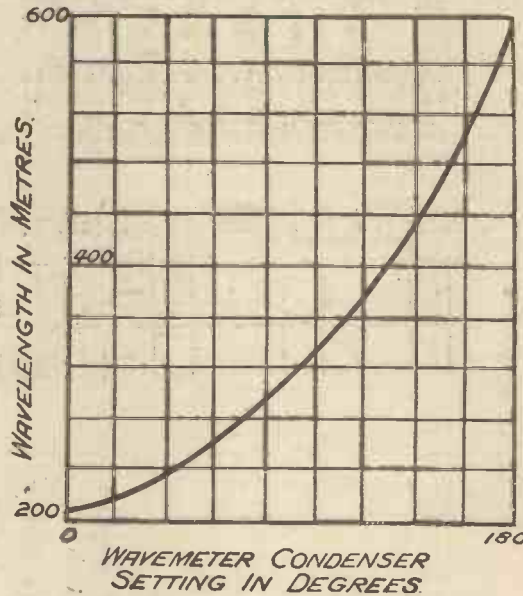

Fig. 3.—The tuning graph for calibration.
B.B.C. stations will give a useful nucleus of points, and there are several high-power foreigners who will be audible on most sets. A graph is then plotted on squared paper as in Fig. 3, wavemeter dial readings being marked along the bottom and wavelengths up the left-hand side.